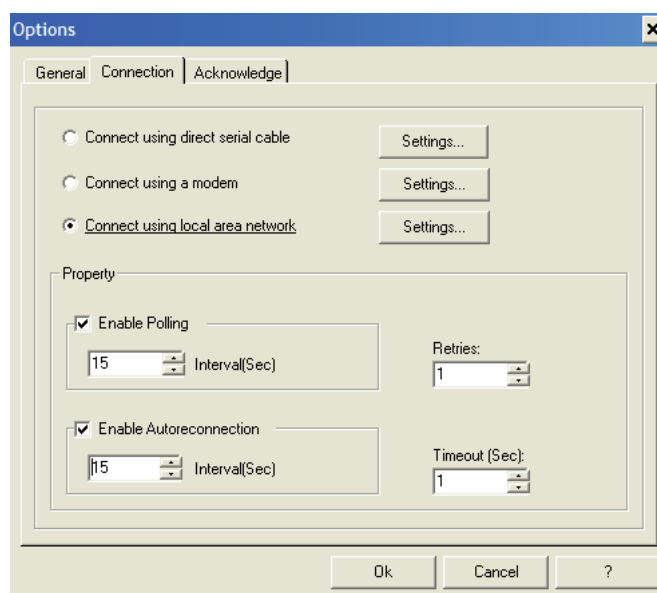

Fig.77 - Connection option
2. select **Connect using local area network** (see Fig.77)